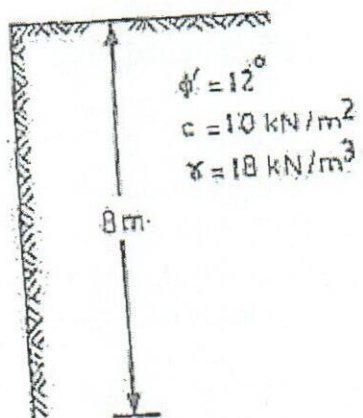

Figure 2
- a) An 8m high soil profile is shown in **Figure 2**, to be supported by a retaining wall.